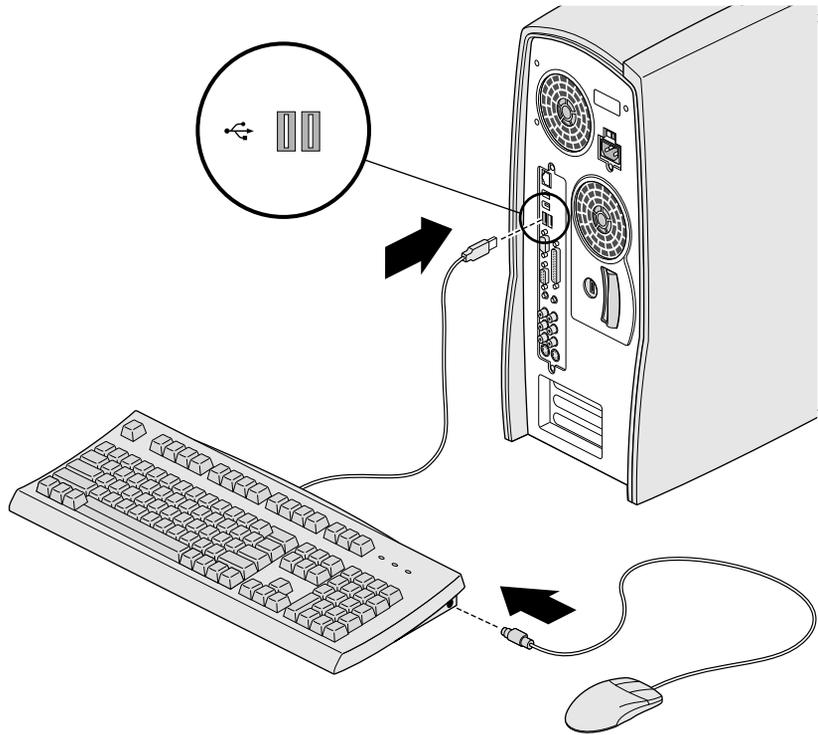

Figure 1-3 Attaching the Mouse and Keyboard
2. Attach the PS/2 mouse to the keyboard, as shown in Figure 1-3. Then attach the keyboard to the leftmost USB connector on the system.